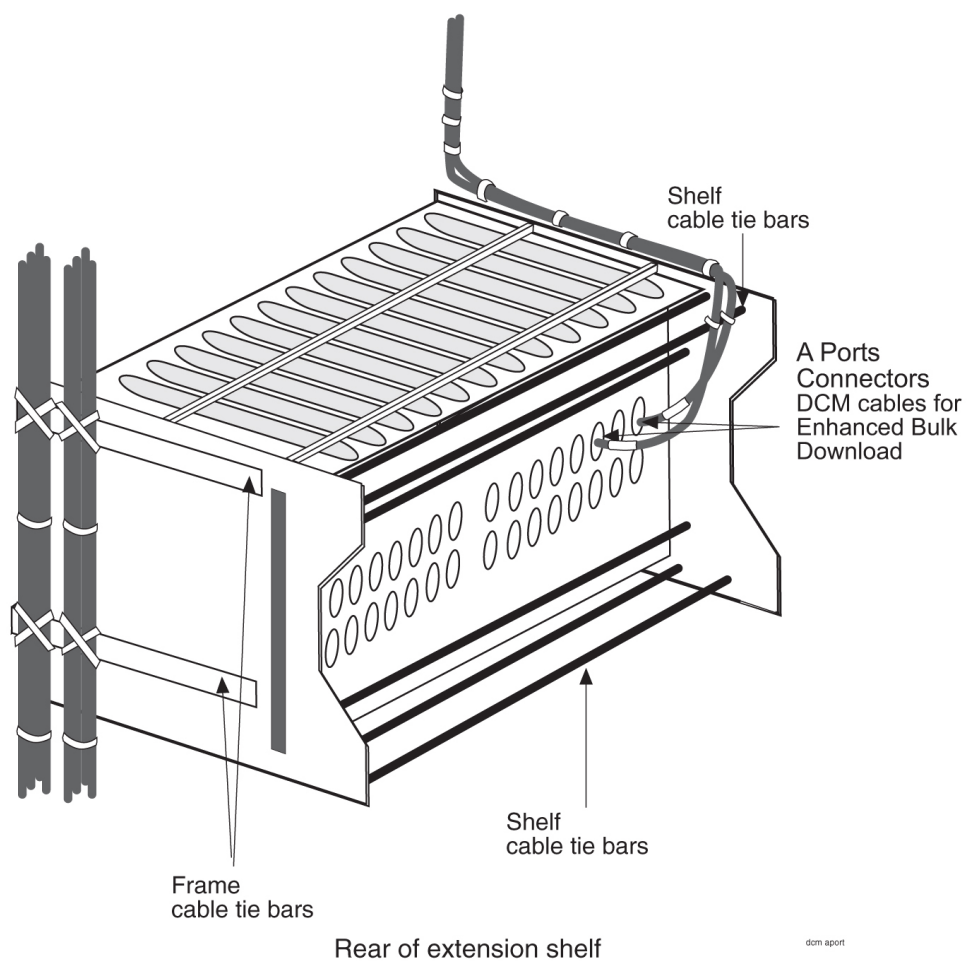

Figure 76: E5-ENET/E5-ENET-B Family Cabling, Enhanced Bulk Download
5. Route the cable around the top edge of the shelf and connect it to the A connector, of the odd numbered card slot where the E5-ENET/E5-ENET-B card is located, see Figure 76: E5-ENET/E5-ENET-B Family Cabling, Enhanced Bulk Download.